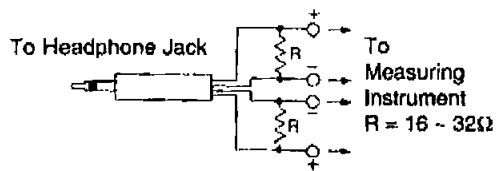

Fig. 2
- Please replace both azimuth adjustment screw (RHE5152ZB) and springs (RM0331) simultaneously when readjusting the head azimuth. (shown in Fig. 2) Even if you